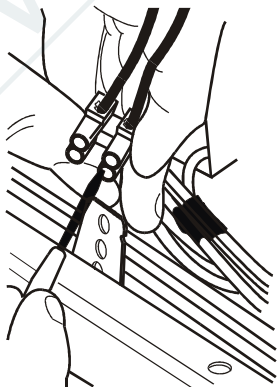

FIGURE 2
6. Insert each stripped wire, one at a time, into the terminal block on the end of the TCO kit wiring assembly and tighten the screw securely. Tighten the screw using a small flat blade screwdriver. See Figure 2.